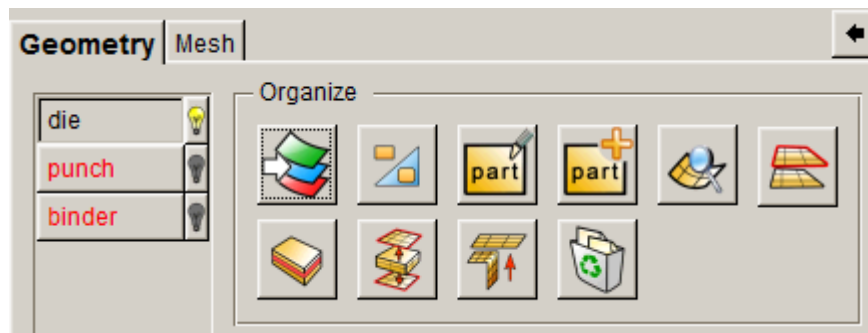

Figure 1.18 Die definition interface
9. Click the **Exit** button to return to tool definition interface. Now, the die has been defined and the font color of **die** is changed from RED to BLACK. See Figure 1.18.